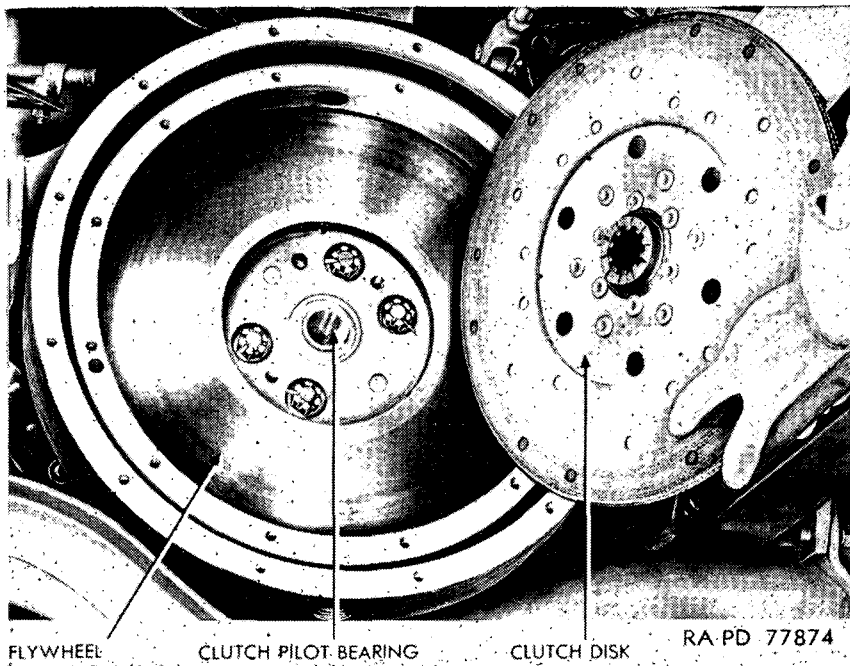

Figure 27.1 Clutch disk and pilot bearing.
- d. REMOVE CLUTCH PILOT BEARING. Remove clutch pilot bearing from seat in engine flywheel (fig. 27.1).
a. INSTALL PILOT BEARING (fig. 27.1). Care must be taken when installing clutch pilot bearing into engine flywheel. Bearing must be seated perfectly in order to maintain alinement of main drive gear, clutch disk, and pilot bearing. Pack bearing with lubricant (par. 16). Use a clutch pilot if available. If pilot is not available, carefully tap clutch pilot bearing into seat in flywheel with brass drift. Open side of bearing must face toward engine. Make certain bearing is started into flywheel evenly before forcing it fully into seat.
b. **INSTALL CLUTCH DISK** (fig. 27.1). Place clutch disk against engine flywheel. Tapered ends of splines in disk hub must face away from flywheel. A pilot may be used for alinement of disk with clutch pilot bearing. If a pilot is not available, proper alinement can be obtained after installation of pressure plate assembly.